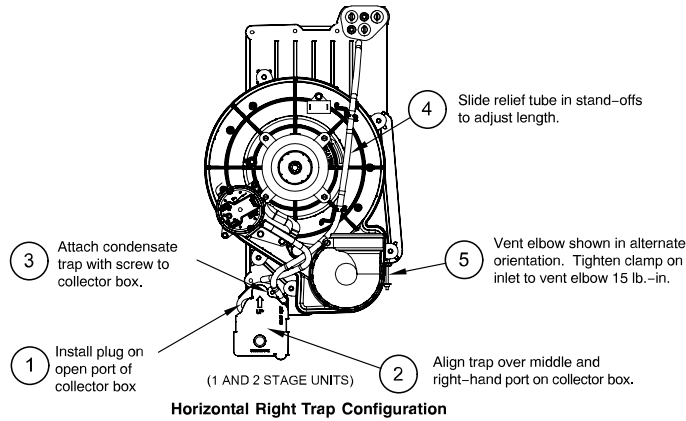

Fig. 10 – Horizontal Right Trap Configuration
When the furnace is installed in the horizontal right position, the condensate trap will be initially located at the bottom of the collector box, as received from the factory. See the top image in Fig. 10. When the furnace is installed in the horizontal left position, the condensate trap will be initially located at the top of the collector box, as received from the factory. See the top image in Fig. 11. In both cases the trap must be repositioned on the collector box for proper condensate drainage. See the bottom images in Fig. 10 and Fig. 11.
- Fig. 10 shows the condensate trap and tubing before and after relocation in the horizontal right position.